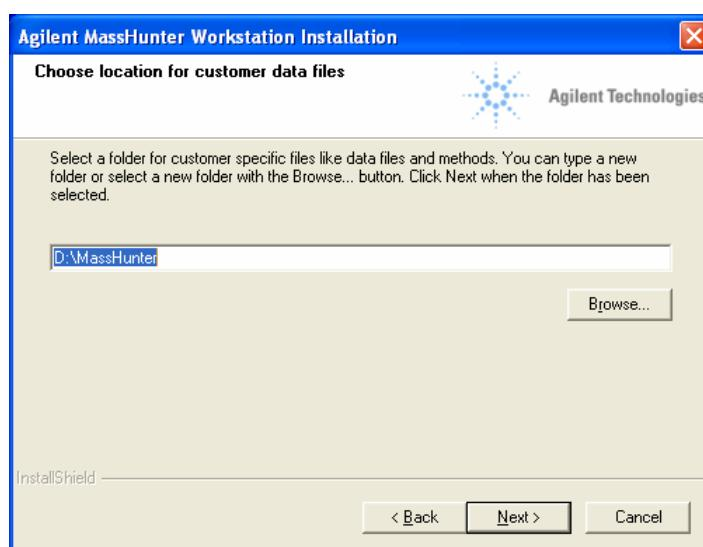

Figure 19 Choose location for customer data files screen
- In the Choose location for customer data files screen, check that the default of **D:\MassHunter** is displayed in the text box, then click **Next**. See Figure 19.